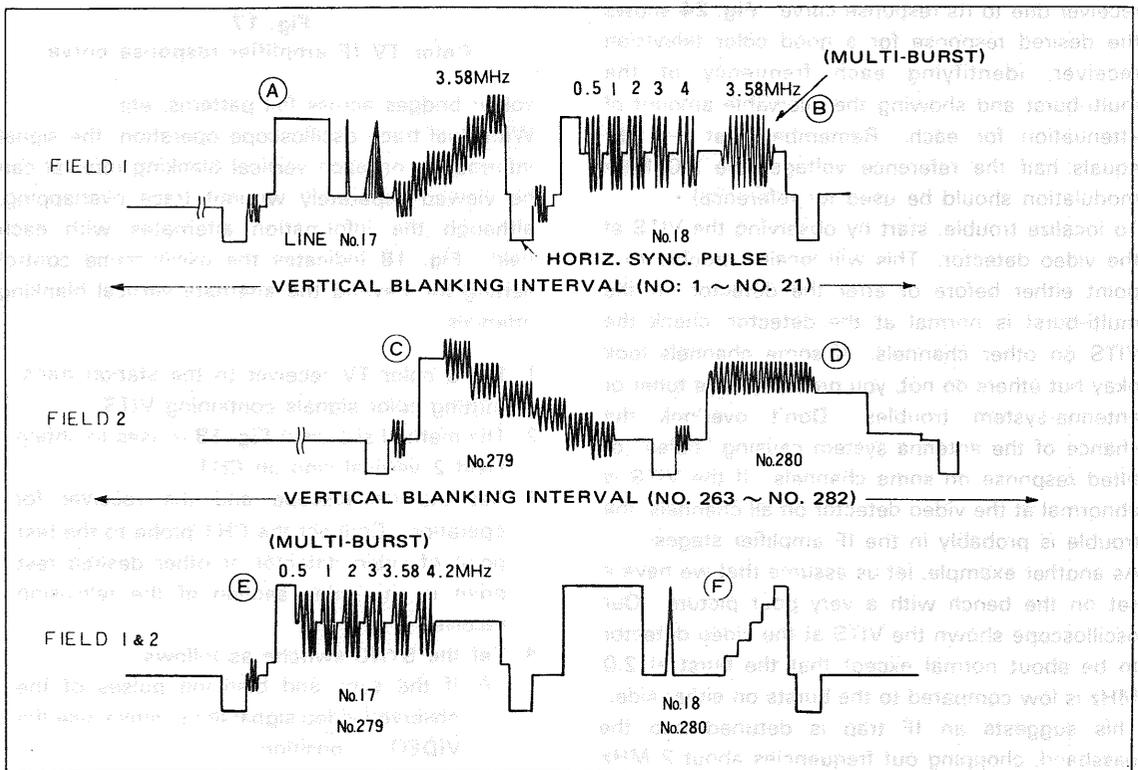
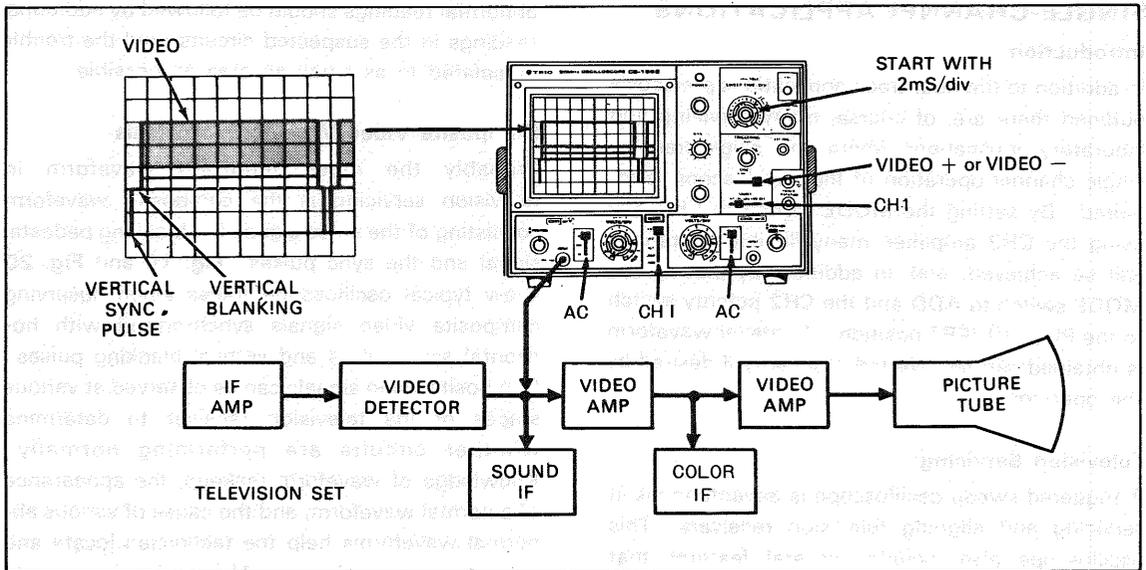

Fig. 16 VITS signal, Fields 1 and 2
Fig. 18 Set-up for viewing fields 1 and 2 of VITS information
Many of the television servicing procedures can be performed using single-trace operation. These are outlined later in the applications section covering single-trace operations. One of these procedures, viewing the VITS (vertical interval test signal), can be accomplished much more effectively using a dual-trace oscilloscope. As outlined in the single-trace applications section and as shown in Fig. 16, the information on the Field 1 and Field 2 vertical blanking interval pulse is different. This is shown in detail in Fig. 16. Also, because the oscilloscope sweep is synchronized to the vertical blanking interval waveform, the Field 1 and Field 2 waveforms are superimposed onto each other. With dual-trace operation, the signal information on each blanking pulse can be viewed separately without overlapping. Fig. 18 indicates the oscil-
The transmitted VITS is precision sequence of a specific frequencies, amplitudes and waveshapes as shown in Fig. 16.
The first frame of VITS at the "B" section (line 18) in Fig. 16 begins with a white reference signal, followed by sine wave frequencies of 0.5 MHz, 1.0 MHz, 2 MHz, 3 MHz, 4 MHz and 3.58 MHz. This sequence of frequencies is called the "multi-burst".
With dual-trace oscilloscope operation, the signal information on each vertical blanking interval can be viewed separately without trace overlapping, although the information alternates with each field. Fig. 18 indicates the oscilloscope control setting for viewing the alternate vertical blanking intervals.
2. The method shown in Fig. 18 is used to obtain Field 2 vertical sign on CH1.
information will appear toward the right hand portion of the expanded waveform displays. The waveform information on each trace may appear as shown in Fig. 16. Because there is no provision for synchronizing the oscilloscope display to either of the two fields which comprise a complete vertical frame, it cannot be predicted which field display will appear on CH1 or CH2.
10. Pull the ◀▶ POSITION control outward to obtain an additional X10 magnification. Rotate the control in a counterclockwise direction moving the trace to the left until the expanded VITS information appears as shown in Fig. 16. Because of the low repetition rate and the high sweep speed combination, the brightness level of the signal displays will be reduced.